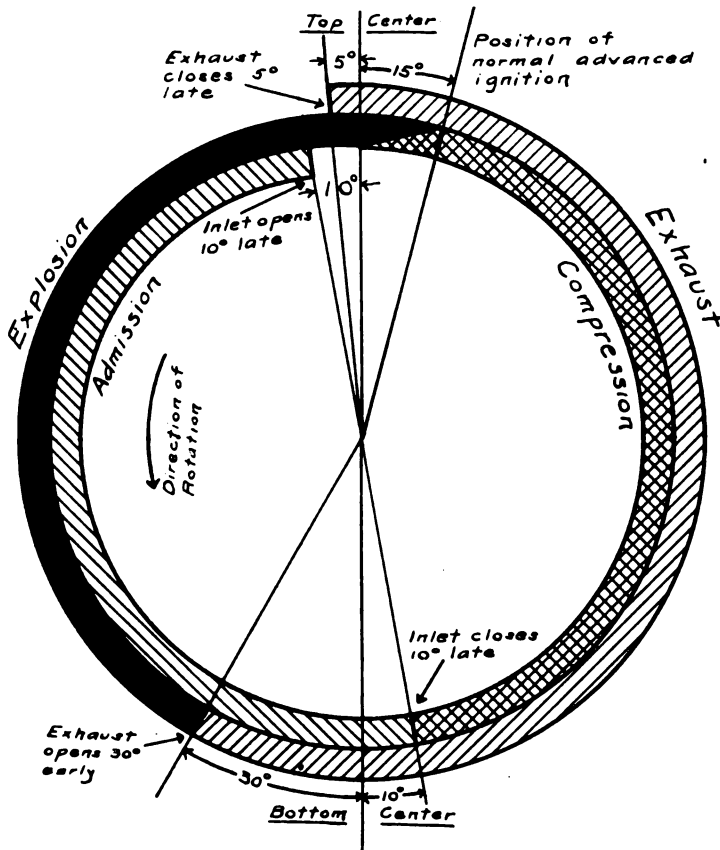

Fig. 33.
- 222 —** a. Fig. 33 gives a diagram for the valve opening and closing of a "75" engine, and shows the actual duration of the different strokes. *When the piston is passing through top or bottom center, it is practically at a standstill, during which time the crankshaft, however, is in uniform circu-*